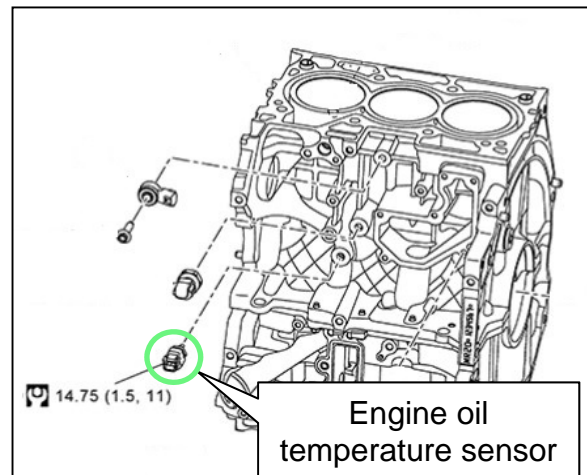

Figure 2
- If the engine oil temperature does not exceed the engine coolant temperature by a minimum of 22°F (12° C) replace the engine oil temperature sensor (Figure 2).